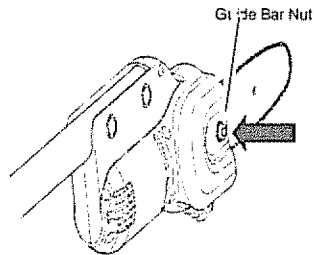

Figure 4 - Loosen Guide Bar Nut
- 1 Before adjusting chain, make sure guide bar nut is only finger tight (see Figure 4)